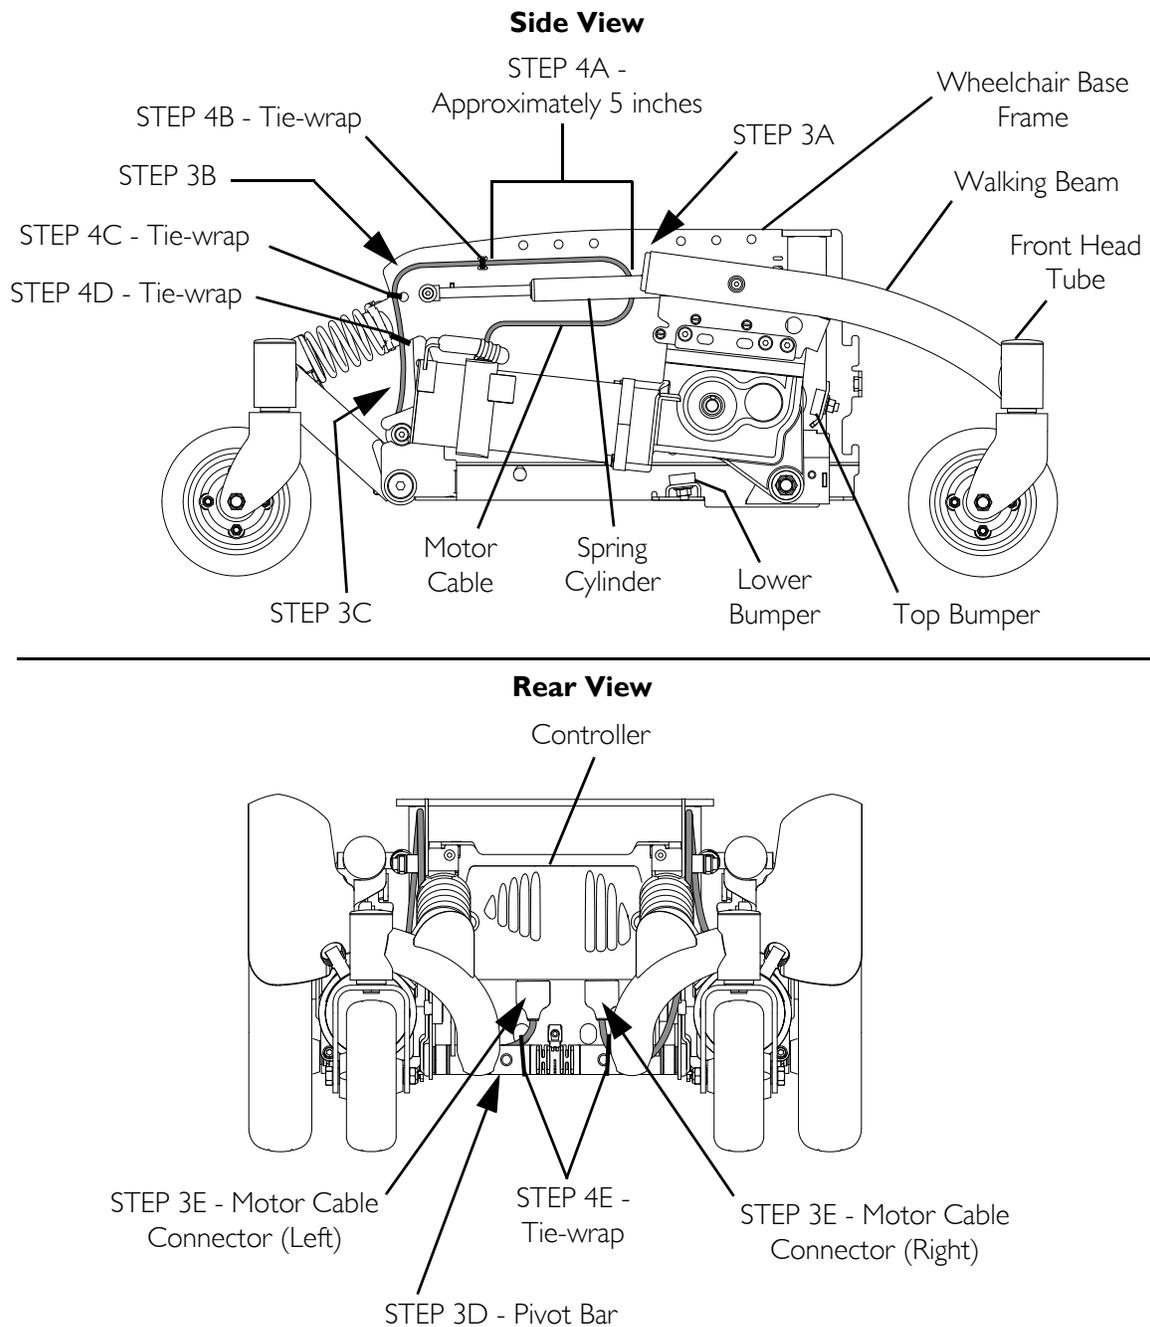

FIGURE 10.5 Routing/Securing Motor Cables
NOTE: For this procedure, refer to FIGURE 10.5 on page 84.
- B. Secure the motor cable to the wheelchair base frame in a loop as shown in the side view of FIGURE 10.5.